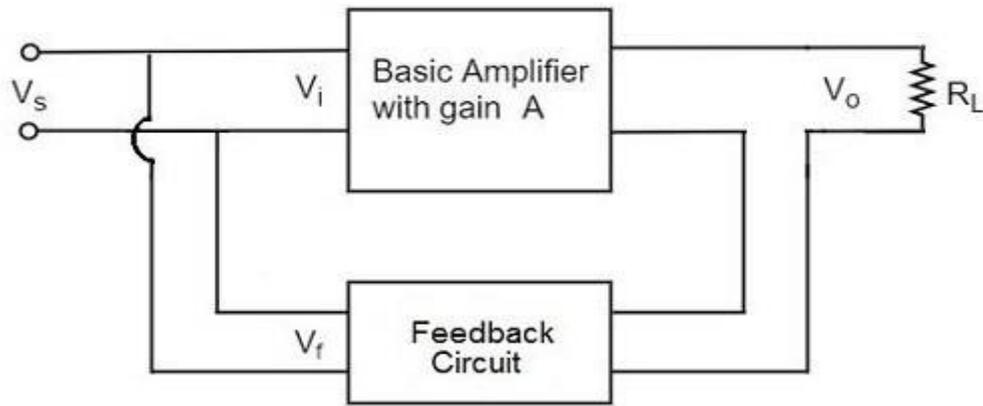

Fig.5. current shunt feedback circuit
- The below figure.5 shows the block diagram of current shunt feedback, by which it is evident that the feedback circuit is placed in series with the output but in parallel with the input.